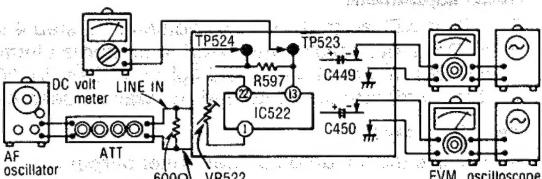

Fig. 24
- Make the connections as shown in fig. 24 and apply 1kHz -27dB signal from LINE IN, and set the noise reduction selector to dbx IN position.